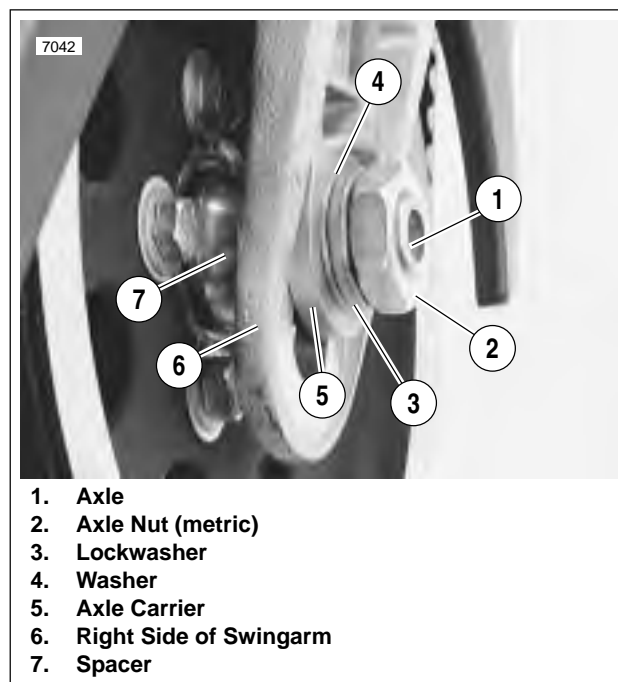

Figure 2-12. Axle, Right Side
- c. See Figure 2-12. Place spacer (7) between wheel hub and right side of swingarm (6). Slide axle (1) through spacer, swingarm and axle carrier (5).
- d. Place washer (4) on axle with rounded side facing swingarm. Install lockwasher (3) and axle nut (2) (metric). Do not fully tighten rear axle nut at this time.
5. Tighten rear axle nut (14) (metric) to 66-73 ft-lbs (90-99 Nm).